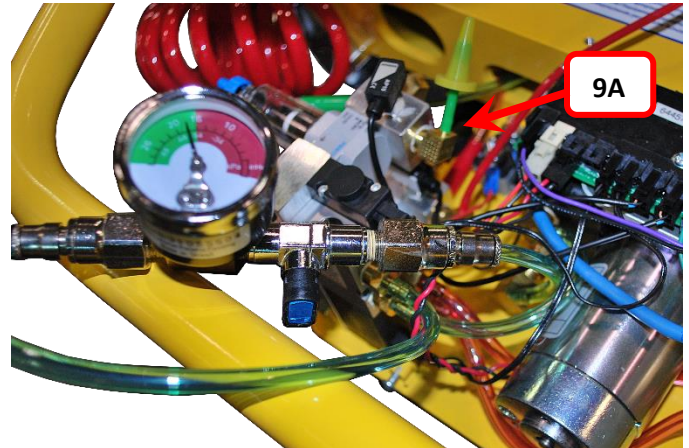

FIGURE 9
See FIGURE 9.
10) Close the ball valve (handle turned perpendicular to the valve) and observe the ball valve's vacuum gauge. See FIGURE 9.
Retest the manifold assembly as shown in **FIGURE 9**. If a leak is noted, contact Wood's Powr-Grip for additional information.